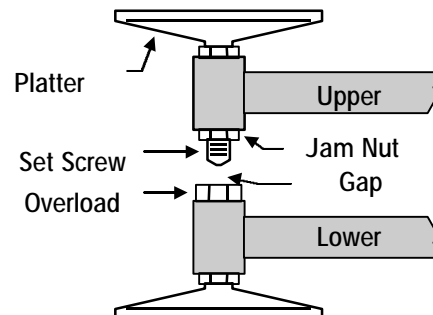

Figure 4-1 Overload Stop Parts
- Refer to Figure 4-1 and Table 4-2 for the location of overload stops and proper gap settings. Torque settings are listed in Table 4-2.